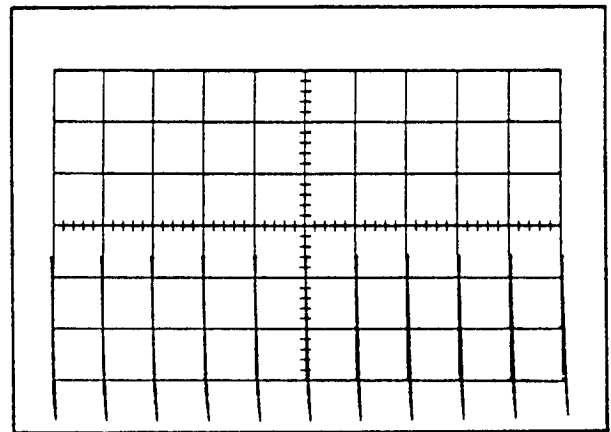

Fig. 5-13. Typical crt display showing correct magnified gain adjustment.
- d. Check—Crt display for one marker each division between the first and ninth graticule lines (see Fig. 5-13)  $\pm 0.32$  division ( $\pm 4\%$ ).